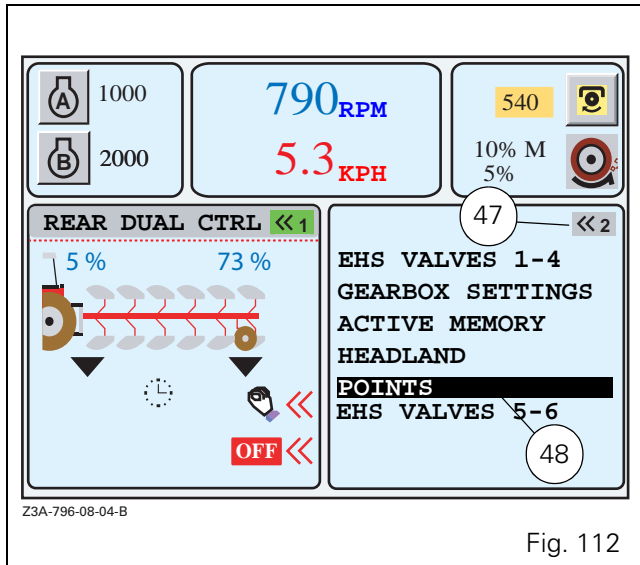
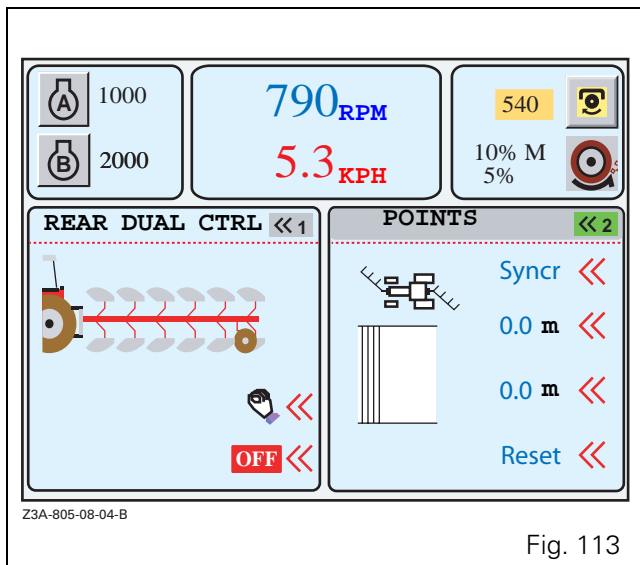

Fig. 112
Fig. 113
POINTS menu displayed only in the right-hand window (Fig. 112):
- To start one of the applications, press the key «₁ or «₂ twice. The first press selects the window and the second displays the list. The active application is represented by a green button at the top right of the window (47 Fig. 112).
- To call up the various menus, select the application using the encoder. The selected application is displayed in a black frame (48 Fig. 112). Validate by pressing the encoder. The window (Fig. 113) is displayed.